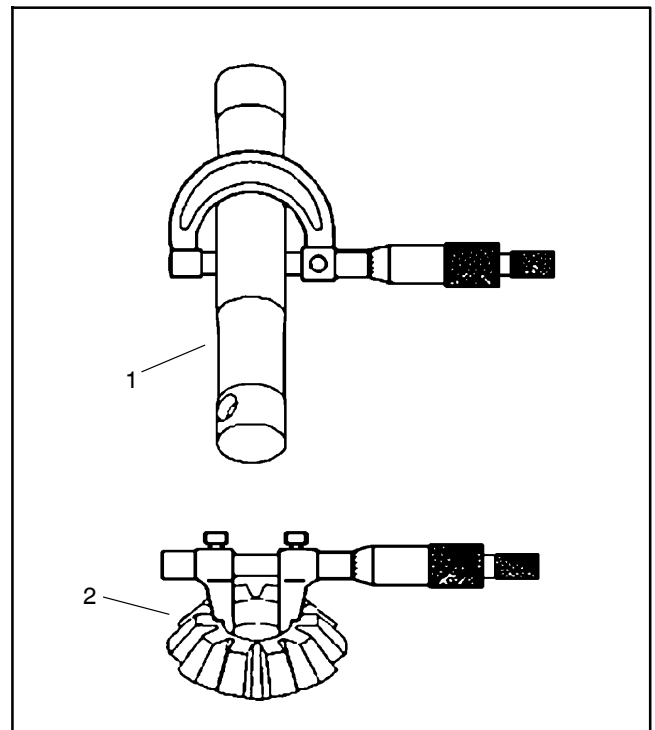

Figure 43
2. Measure the differential pinion shaft O.D. and the pinion gear I.D. to determine the pinion shaft to pinion gear clearance (Fig. 43). Replace components as necessary.